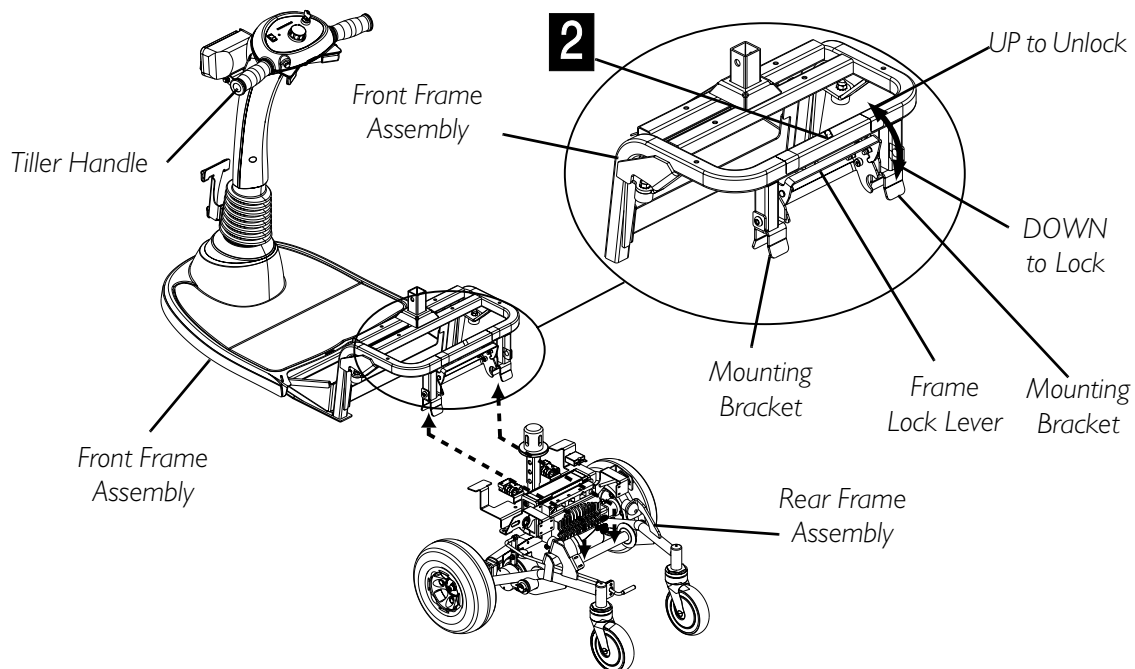

FIGURE 13.2 - TRANSPORTING THE SCOOTER - 400
NOTE: For this procedure, refer to FIGURE 13.2.
5. Disconnect the 4-housing motor [located under marker label # 1] connector from the controller (Detail "B" of FIGURE 13.2).
- B. Using the other hand, firmly hold the YELLOW frame lock lever [located under marker label # 2] and pull UP to the Unlocked position as shown in Detail “C” of FIGURE 13.2.
- C. Lift the front frame assembly so that the mounting brackets disengages from the rear frame assembly as shown in Detail “C” of FIGURE 13.2.
3. Perform the following to connect the front frame assembly to the rear frame assembly (Detail “C” of FIGURE 13.2):
4. Connect the 4-housing motor connector [located under marker label # 1] to the controller (Detail “B” of FIGURE 13.2).